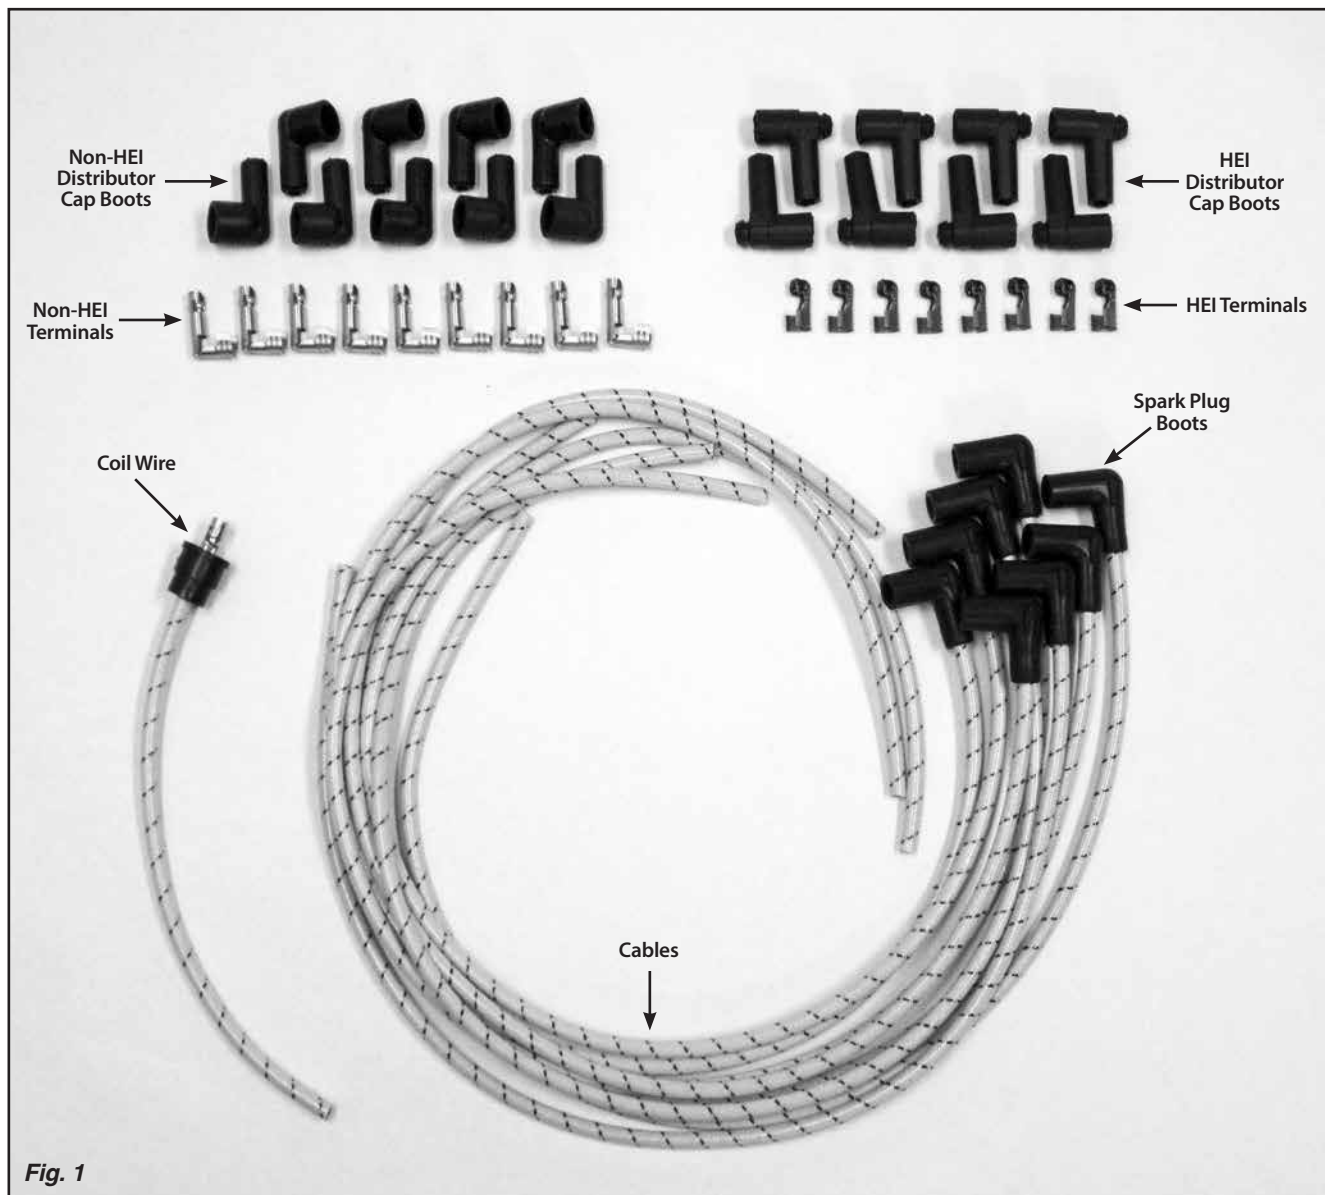

Fig. 1
Refer to Fig. 1 for the component names.
Step 2: Determine if you have an HEI or non-HEI style distributor cap. The HEI style has male terminals or studs on the distributor cap. The non-HEI style has female terminals on the distributor cap. Refer to Fig. 1, and discard the terminals and distributor cap boots that are not correct for your application.